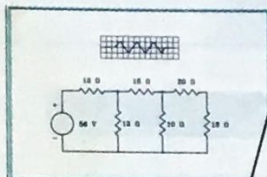

Fig. 31-6
2. Draw the electric circuit shown in Fig. 31-6 as follows: Draw the resistor using the mesh shown, then save it as a block. Draw the circuit, inserting the blocks where appropriate. Grid and snap are handy for drawing the resistor and circuit. Finish the circuit by inserting small donuts at the connection points. Add the text. The letter omega (Ω), which is used to represent the resistance in ohms, can be found under the text style GREEK (character W).